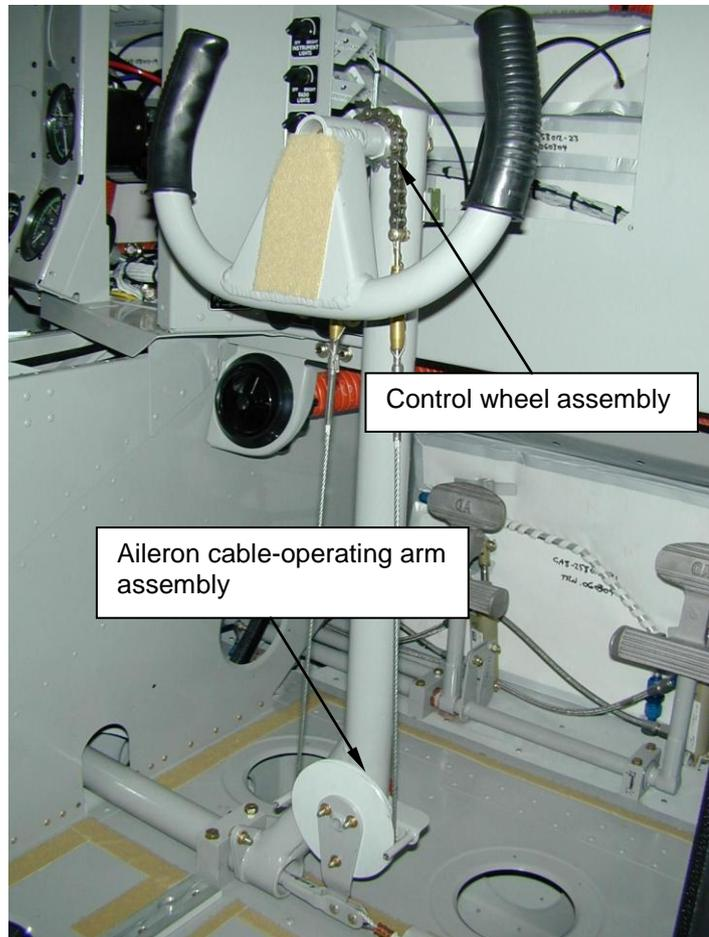

Figure 1
1. Remove the control wheel and control column cover panels from the pilot and co-pilot (if fitted) control columns to gain access to the control wheel assembly and the aileron cable-operating arm assembly. Refer to Figure 1.